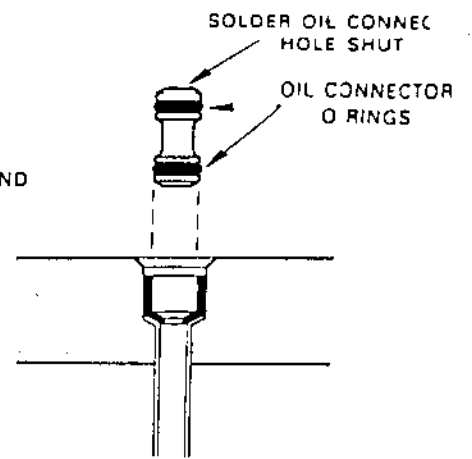

FIGURE 2
2. The oil supply line, on units in operation, can be plugged by removing the oil connector (CON-1) and "O" rings and soldering the hold shut. (See Figure 2). To assure an oil tight seal, new "O" rings (RNG-10) should be installed.